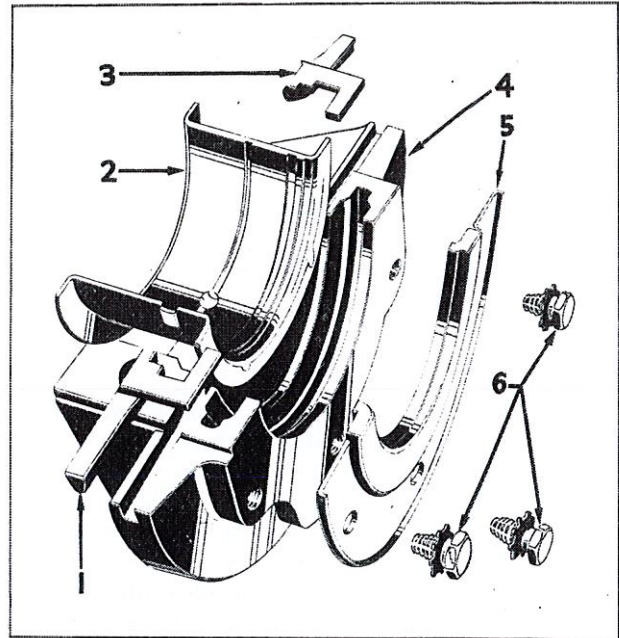

Fig. 9—Crankshaft Rear Bearing Cap Oil Seals
The rear crankshaft bearing cap is designed to include an oil seal the details of which are shown in the illustration (Fig. 9). The L shaped gaskets (3) are of special gasket material and must be in the position shown. Molded oil seal (5) act as dams to prevent oil seepage, and are held by screws to the cap and the cylinder block to form a complete circular seal around the crankshaft.